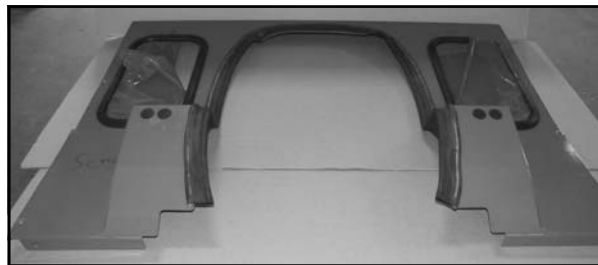

Fig. 4.2
**4.2** Install 1" bulb rubber (approximately 86") along the sheet metal edges as shown in fig. 4.2. Trim any extra bulb rubber.